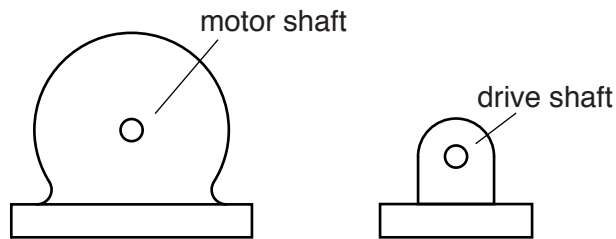

Fig. 4
- 4 (a) Fig. 4 shows an electric motor and a drive shaft.